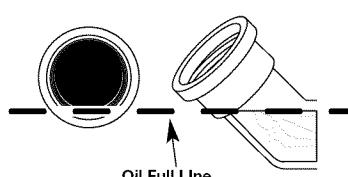

Fig. 20
- Look into the oil fill hole (Fig. 20). If the oil level comes up to the lowest thread, then the oil is full. If it does not, fill with oil until it does.